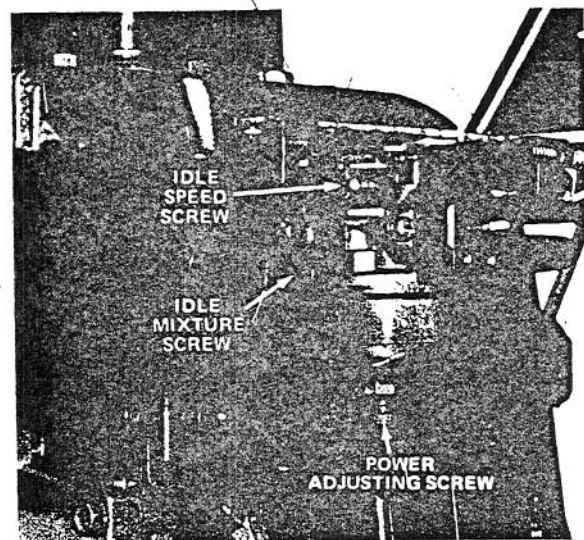

Figure 37
2. Power Adjusting Screw (Fig. 37) — Close screw by gently rotating it clockwise until a slight seating resistance is felt. Next, rotate power adjusting screw 1 full turn — 360° — counterclockwise.
3. Idle Mixture Screw (Fig. 37) — Close screw by gently rotating it clockwise until a slight seating resistance is felt. Next, rotate idle mixture screw 1-1/2 full turns counterclockwise.
5. Rotate power adjusting screw (Fig. 37) clockwise—in— 1/8 turn at a time until engine misses because of a lean gasoline mixture. Then rotate screw counterclockwise — out — 1/8 turn at a time until engine runs unevenly because of a rich gasoline mixture. Next, rotate power adjusting screw clockwise, back to the midpoint between the rich and lean setting so engine runs smoothly.
6. Move throttle backward to idle speed. Next, rotate idle speed screw (Fig. 37) until engine idles fast — 1750 rpm.
7. Rotate idle mixture screw (Fig. 37) clockwise — in — 1/8 turn at a time until engine begins to miss because of a lean mixture. Then rotate screw counterclockwise — out — 1/8 turn at a time until engine runs unevenly because of rich mixture. Next, rotate idle mixture screw clockwise, back to the mid-point between rich and lean setting.
8. Again, rotate idle speed screw (Fig. 37) until engine idles at 1750 rpm.